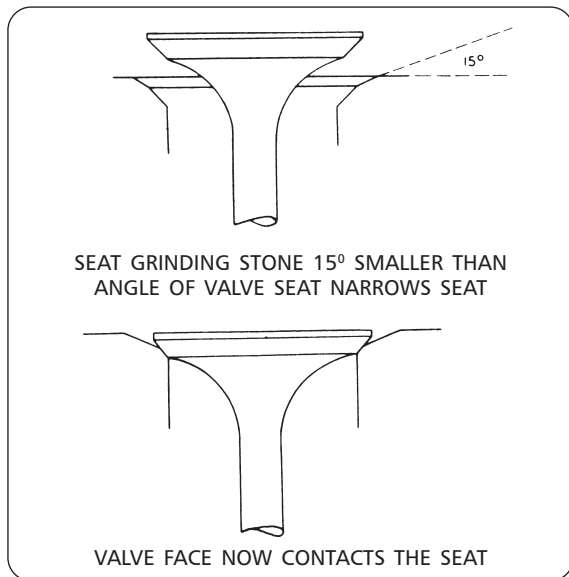

Fig. 14
- o) Reface the valve seats to the correct angle seat that are too wide after refacing should be narrowed by grinding the top edge of the seat with a stone of a similar angle (15° angle preferred). Refer Fig. 14